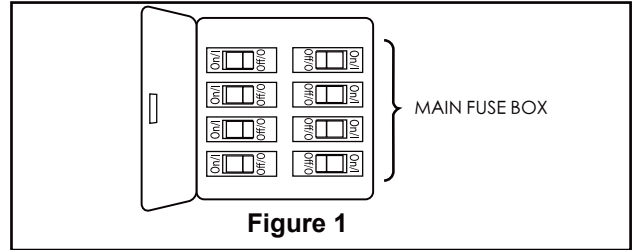

Figure 1
1. Remove the hanger ball portion from the downrod/hanger ball assembly by loosening the set screw in the hanger ball until the ball falls freely down the downrod. Remove the pin from the downrod, then remove the hanger ball. Retain the pin and hanger ball for reinstallation in Step 6. (Figure 1)
To avoid possible electrical shock, be sure electricity is turned off at the main fuse box before hanging. (Figure 1)
1. To set the code on receiver unit, slide dip switches to the same positions as set on the remote. (Figure 1)